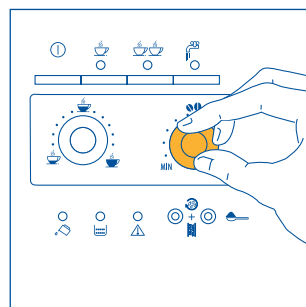
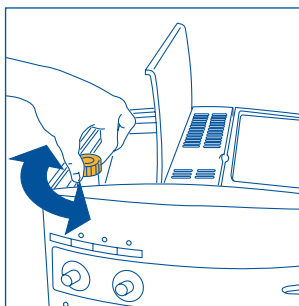

Fig.7
Fig. 17
- 2) Adjust the right-hand knob (Fig. 7) to set the desired taste of the coffee. Turning the knob clockwise increases the quantity of coffee beans that the machine will grind, and thus makes the taste of the coffee stronger. When using the machine for the first time, the correct position of the knob can be found by trial and error. Make sure not to turn it too far clockwise, otherwise the coffee will be delivered too slowly (in drops), above all when preparing two cups of coffee.
NOTE 1: If the coffee is delivered a drop at a time or not at all, turn the grinding coarseness regulator (fig. 17) one click clockwise (see para. 6). Turn a click at a time until the coffee is delivered satisfactorily.
NOTE 2: If the coffee is delivered too fast and is not creamy enough, turn the right-hand knob (fig. 7) clockwise. Proceed by trial and error to find the correct position of the knob. Make sure not to turn the knob too far clockwise, otherwise the delivery may become too slow (in drops), above all when making two cups of coffee. If, after several coffees, the cream is still not satisfactory, also turn the grinding adjustment knob (Fig. 17) one click clockwise (see par. 6).
To resolve this problem, re-set the grinding coarseness on the coffee grinder by adjusting the knob (Fig. 17) one click counter-clockwise (as described in chap. 6).
Nonetheless, after having made the first coffees, if delivery is too fast or too slow (in drops), the grinding coarseness must be adjusted using the knob (Fig. 17) located inside the bean container. Turning one click (one number) clockwise achieves faster delivery of the coffee (without drops).